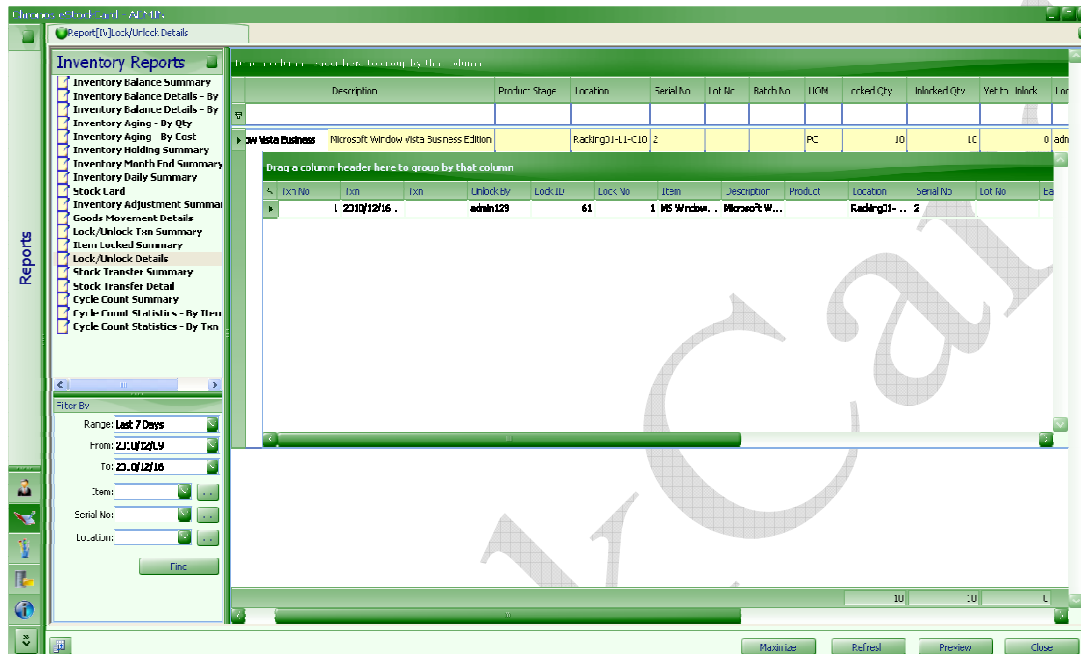

Fig. 54
Step 2 Under “Filter By” pull down, select “MS Windows Vista Business” from item code drop down and click “Find” (Fig. 54)